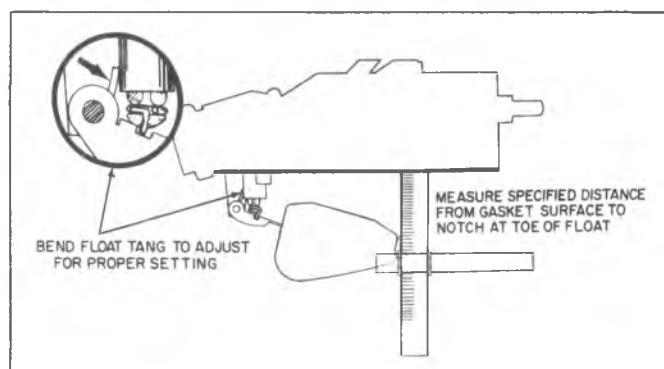

Fig. G10--Float Drop Adjustment (Nitrophyl)
- With air horn right-side up so that float can hang free, measure the distance from the lip at toe of float to air horn gasket. Adjust float drop to specifications by bending the tang at the rear of the float arm which rests against the needle seat. (Figure G10).